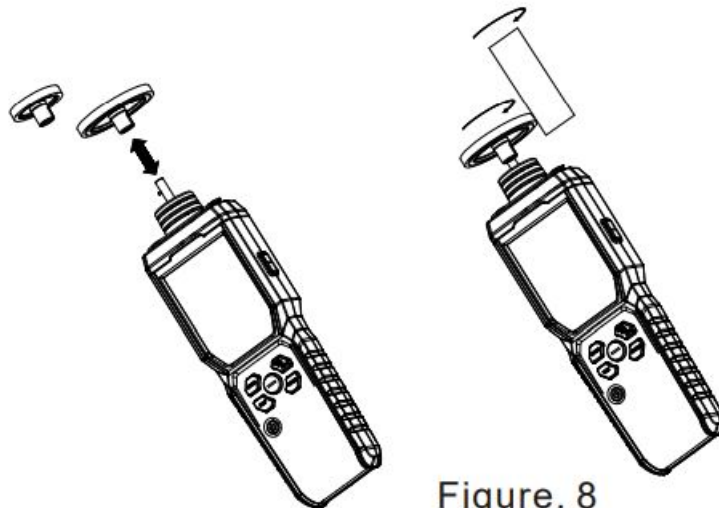

Figure. 8
4. Contact—Surface Velocity/Length Measurement (Figure 8)